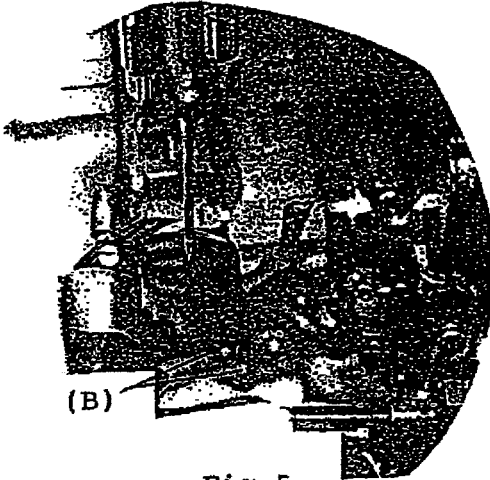

Fig. 5
Set the rear needle guard ( Looper lever needle guard ) so that it barely contacts the needle when the looper point approaches the left side of needle. Adjustment can be made by loosening the two screws (B) / Fig.5 and re-set the needle guard at proper position.